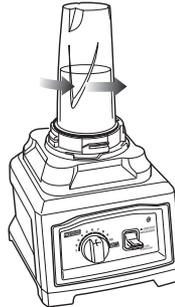
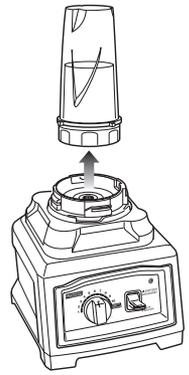

Fig. 12
Fig. 13
- 6 When you have reached your desired consistency, turn the single serve cup counter-clockwise (Fig.12) and pull straight up to remove. (Fig. 13)